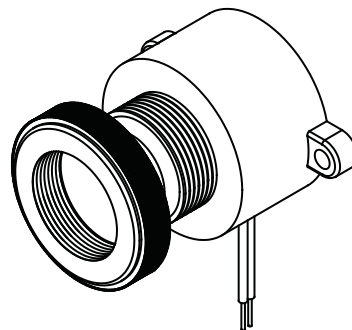

Figure 4 Buzzer
- (3) The buzzer (i.e., horn) provides an audible alert when the ELT is active. See Figure 4 Buzzer.